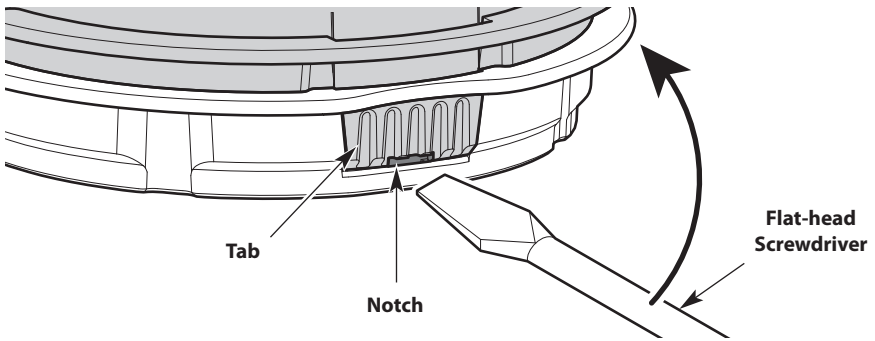

Fig. 25
- a. Insert a flat-head screwdriver into the notch on the tab (Fig. 25).
- b. Gently tilt the screwdriver up and hold it in place (Fig. 25).
- c. While holding the screwdriver in place, gently twist the screwdriver to unlock the tab from the tab slot (Fig. 25).